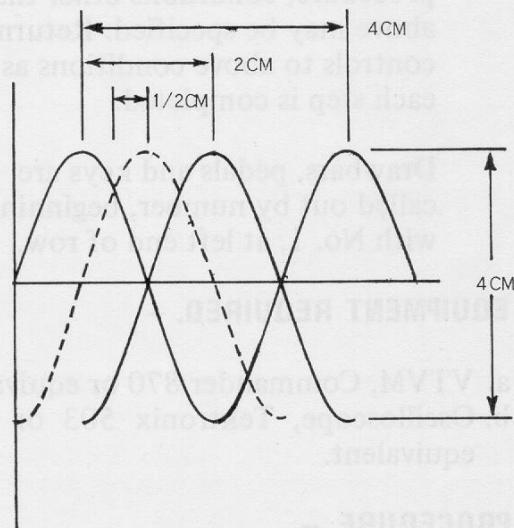

Figure 4-1. Vibrato Adjustment Waveform
- i. Depress the VIBRATO NORMAL tab. Adjust the VIBRATO WIDTH control for a total phase shift swing of 2 cm. (refer to Figure 4-1). If VIBRATO WIDTH control does not give satisfactory result, select R133, Figure 5-1 through 5-4 between 220Ω and 1K.
- j. Release VIBRATO NORMAL tab. Single wave must be centered  $\pm \frac{1}{2}$  cm. as shown in Figure 4-1.